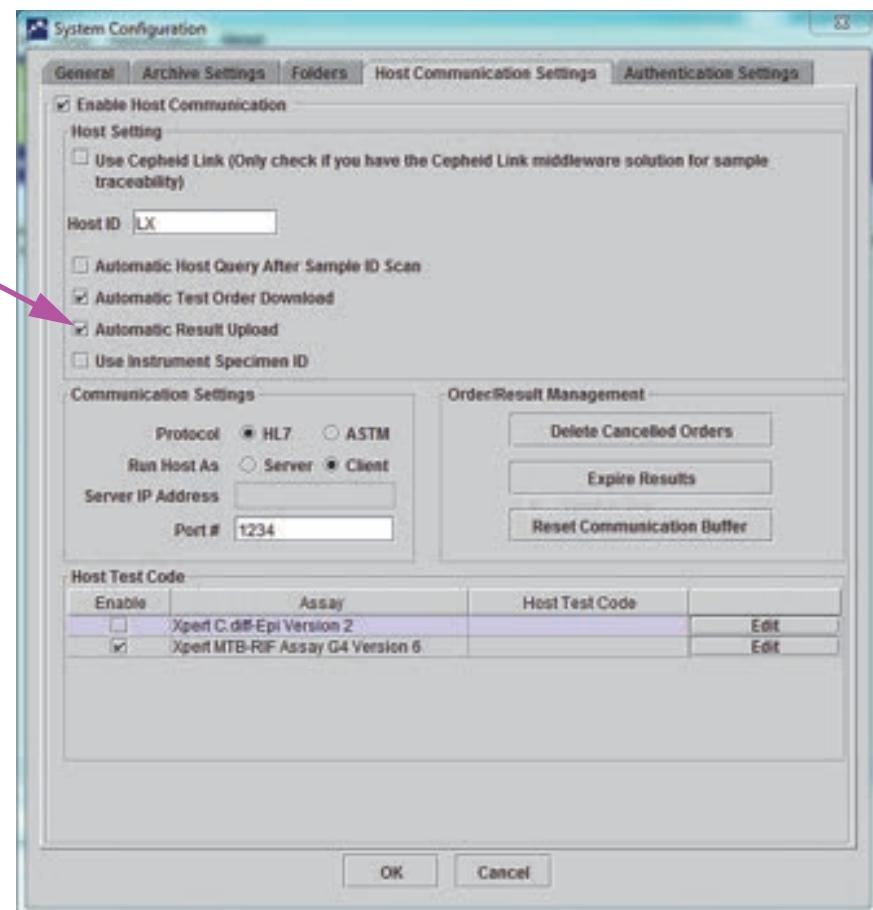

Figure 5-98. Automatic Result Upload
1. In the **Host Communication Settings** tab of the System Configuration dialog, click the **Automatic Result Upload** check box so the result will be uploaded as soon as the test is completed. See Figure 5-98.
1. In the **Host Communication Settings** tab of the System Configuration dialog, make sure **Automatic Result Upload** is deselected or disabled. See Figure 5-98.